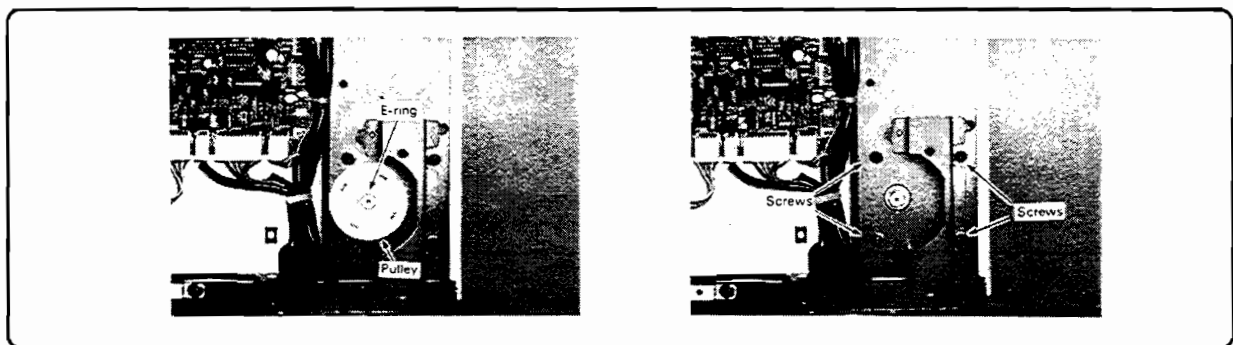

Figure 6-166. Duplex Motor Removal
4. Remove the e-ring, and remove the pulley and dowel pin (Figure 6-166).
5. Remove the four screws, and remove the duplexing unit drive motor (Figure 6-166).